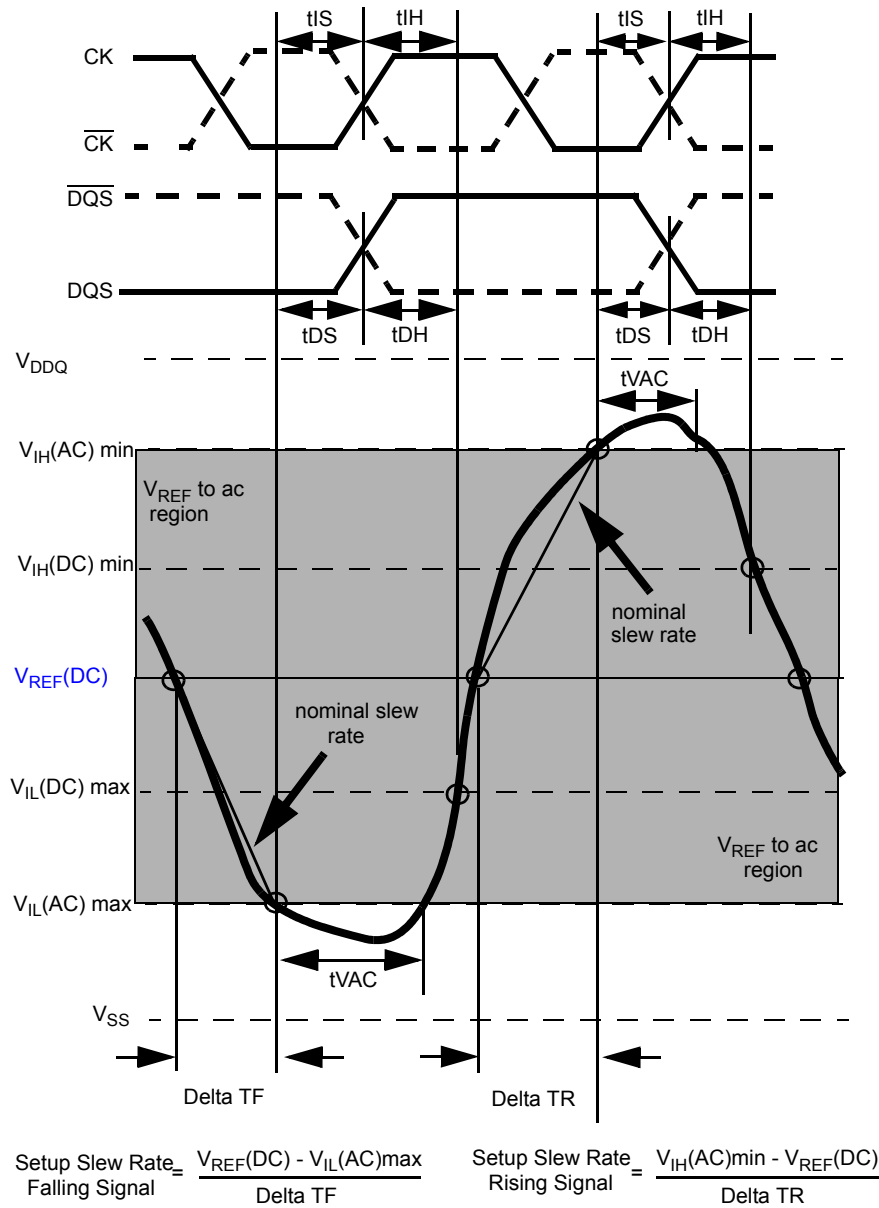
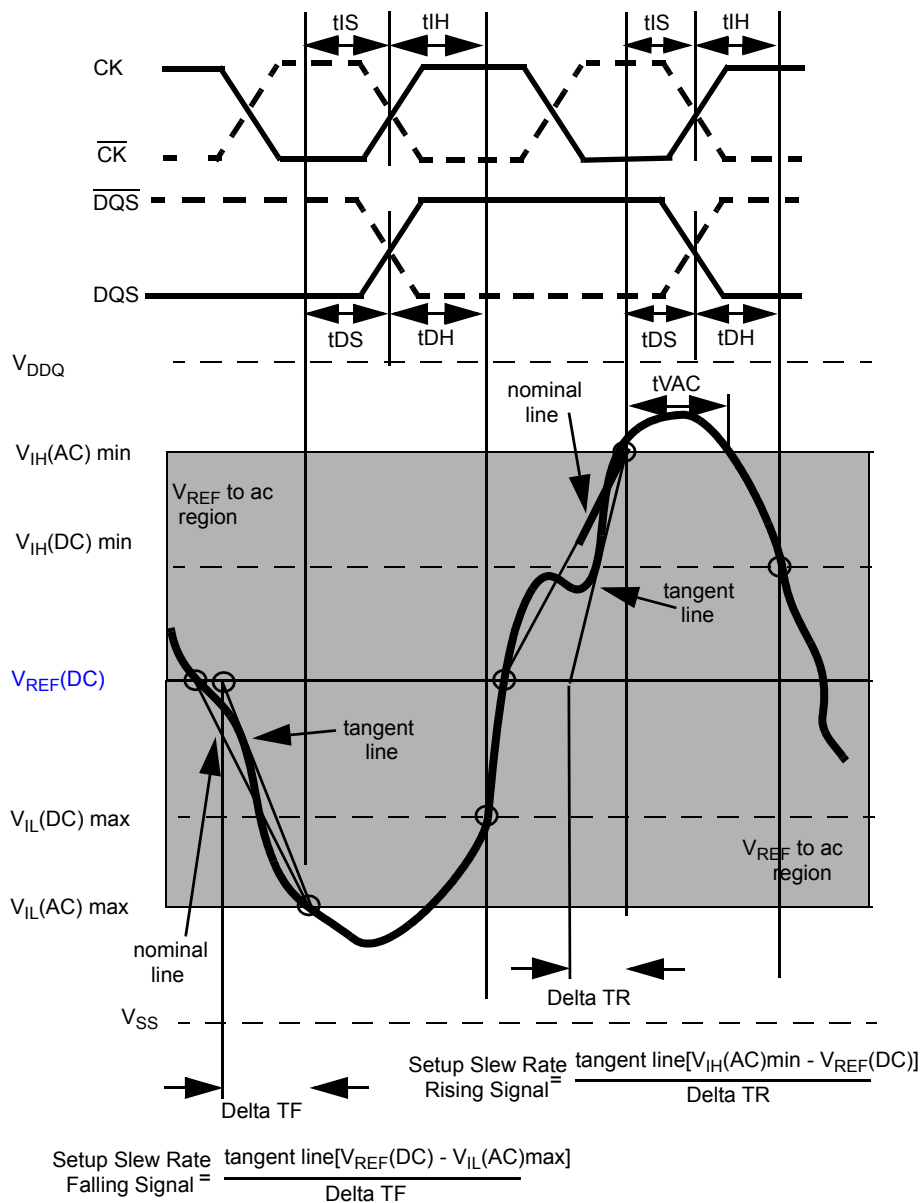

Figure 25 - Illustration of nominal slew rate and tVAC for setup time tDS (for DQ with respect to strobe) and tIS (for ADD/CMD with respect to clock).
Figure 27 - Illustration of tangent line for setup time tDS (for DQ with respect to strobe) and tIS (for ADD/CMD with respect to clock)
Setup (tDS) nominal slew rate for a rising signal is defined as the slew rate between the last crossing of V_{REF}(DC) and the first crossing of V_{IH}(AC)min. Setup (tDS) nominal slew rate for a falling signal is defined as the slew rate between the last crossing of V_{REF}(DC) and the first crossing of V_{IL}(AC)max (see Figure 25). If the actual signal is always earlier than the nominal slew rate line between shaded 'V_{REF}(DC) to ac region', use nominal slew rate for derating value. If the actual signal is later than the nominal slew rate line anywhere between shaded 'V_{REF}(DC) to ac region', the slew rate of a tangent line to the actual signal from the ac level to dc level is used for derating value (see Figure 27).